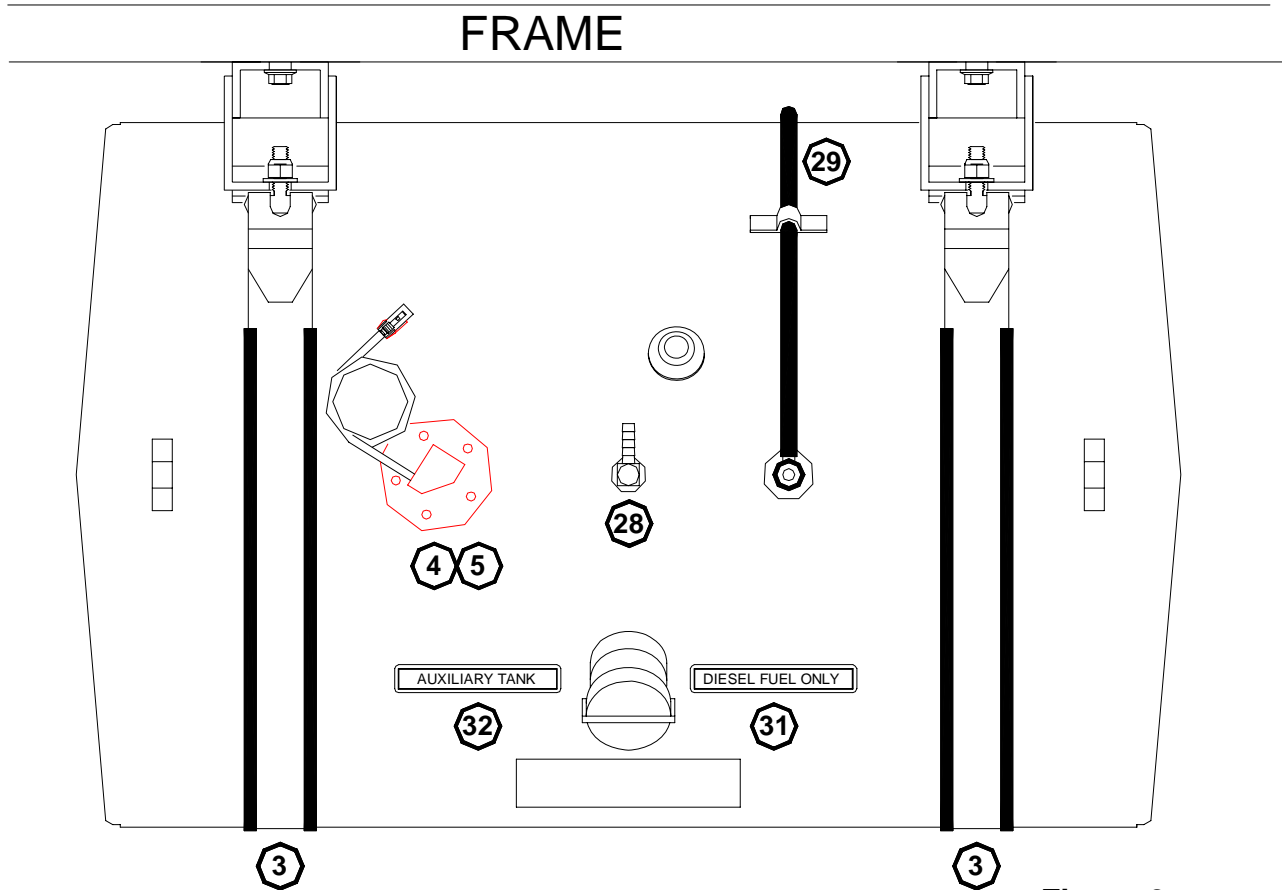

Figure 2
- Mount Tank (not supplied with the kit) to K-Brackets (Item #2) using tank strap assembly (Item #3). Position tank so fill spout is facing outward and away from frame and the top of the sender opening is horizontal to the top of the frame. Left tank strap will be to the left of sender opening and right tank strap will be to the right of supply and return ports. Center fill spout between straps. Tighten strap bolts evenly top and bottom to 27ft. Lbs. See Figure 2.
- Mount sender unit (Item #4) and sender gasket (Item #5) by removing the existing round 5 holed cover from the new auxiliary fuel tank. Discard this cover and the gasket and keep the five hex head screws. Install gasket on sender and carefully install the sender float into the tank and work the sender all the way into the tank until the sender cap is seated onto the tank sender plat. **Care must be taken to not bend or damage the sender.** Align the sender, sender gasket and the tank sender plate holes and secure using the hex head screws removed from the tank cover. For ease of installation, the notch on the gasket will face toward the 3 o'clock position and the sender harness will face toward the 10 o'clock position as shown in Figure 2.